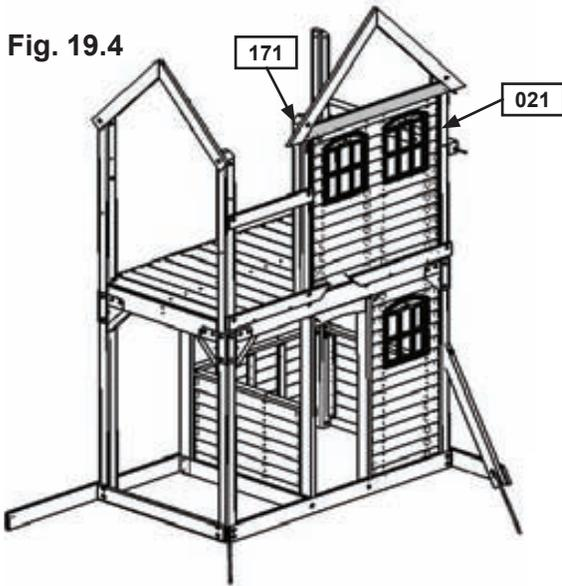

Fig. 19.5
C: Place (190) Lower Roof between (180) Left Roof Support and (181) Right Roof Support so the bottom of the Lower Roof is flush with the bottoms of each Roof Support. Attach (190) Lower Roof to each Post and each Roof Support with 4 (S3) #8 x 2-1/2" Wood Screws as shown in fig. 19.5 and 19.6
D: Tighten both bolts from Steps A. (fig. 19.5)
E: From outside of the assembly install 1 (WB7) 5/16 x 3" Wafer Bolt (with flat washer and t-nut) to (021) Post Long in the hole shown in fig. 19.5. **This bolt does not attach to anything, but MUST be installed to minimize checking.**